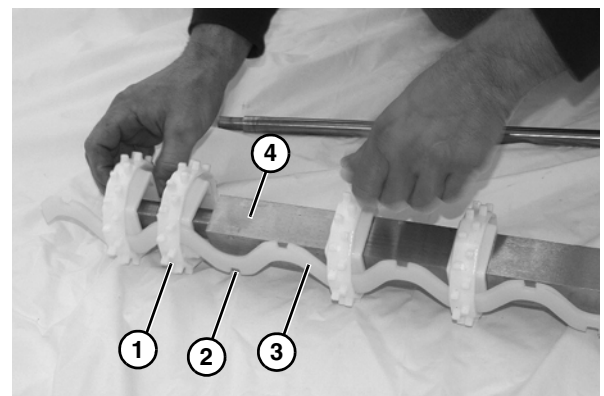

Figure 68
1. Assemble sprockets (Figure 68, item 1) to the slots (Figure 68, item 2) of alignment bar (Figure 68, item 3), and install assembly onto drive spindle (Figure 68, item 4).